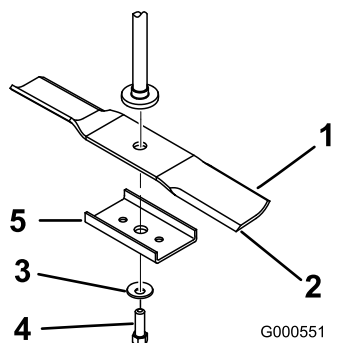

Figure 53
Hold the blade end using a rag or thickly-padded glove. Remove the blade bolt, curved washer, blade stiffener (42 inch models only), and blade from the spindle shaft (Figure 53).
1. Install the blade onto the spindle shaft (Figure 53).
2. Install the blade stiffener (42 inch models only), the curved washer (cupped side toward the blade) and the blade bolt (Figure 53).